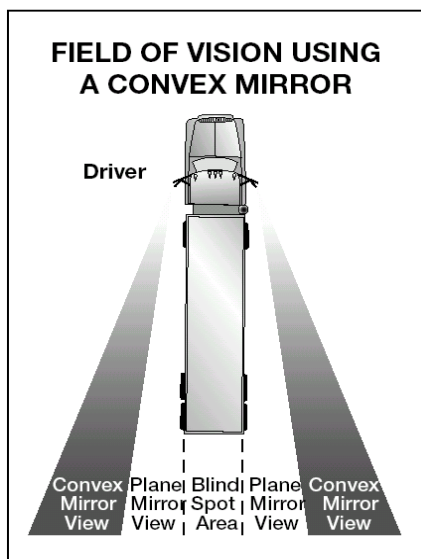

Figure 3.7
- Many large vehicles have curved (convex, "fisheye," "spot," "bugeye") mirrors that show a wider area than flat mirrors. This is often helpful. But everything appears smaller in a convex mirror than it would if you were looking at it directly. Things also seem farther away than they really are. It's important to realize this and to allow for it. Figure 3.7 shows the field of vision using a convex mirror.